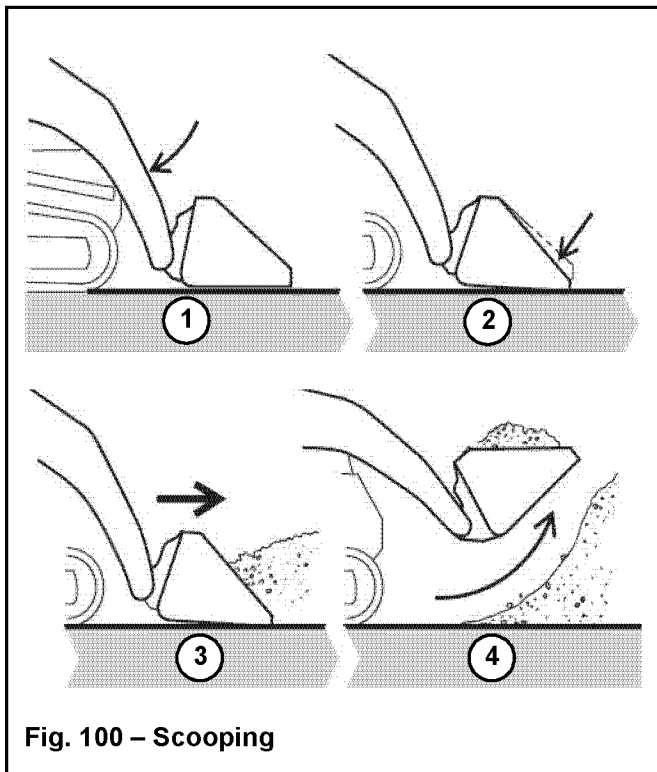

Fig. 100 – Scooping
1. Lower the bucket to the ground (Fig. 100).